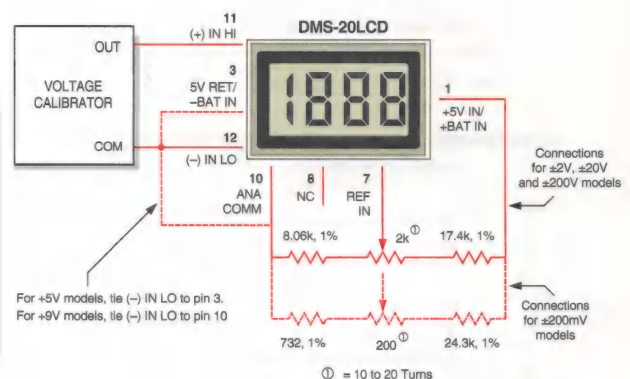

Figure 9. External Gain Adjustment
7. **External Gain Adjustment:** Connect REFERENCE OUT (pin 8) to REFERENCE IN (pin 7) for normal, factory calibrated, operation. Use the circuit shown in Figure 9 for applications needing external gain adjustment. Calibration is performed with a precise, near-full-scale, input voltage.